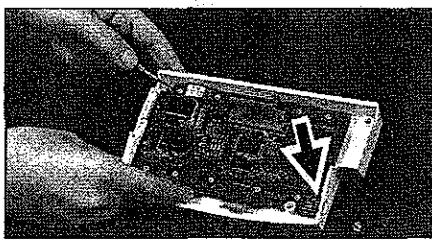

Figure 32
- Remove the four (4) 4-40x1/4" Phillips pan-head screws which attach the display PCB/LCD assembly to the bezel top. Separate the display PCB/LCD assembly from the bezel top by gently pulling up on the display PCB corners as illustrated in Figure 32. Take care to retain the two o-rings on the temperature jack of the display PCB (arrow in Figure 32).